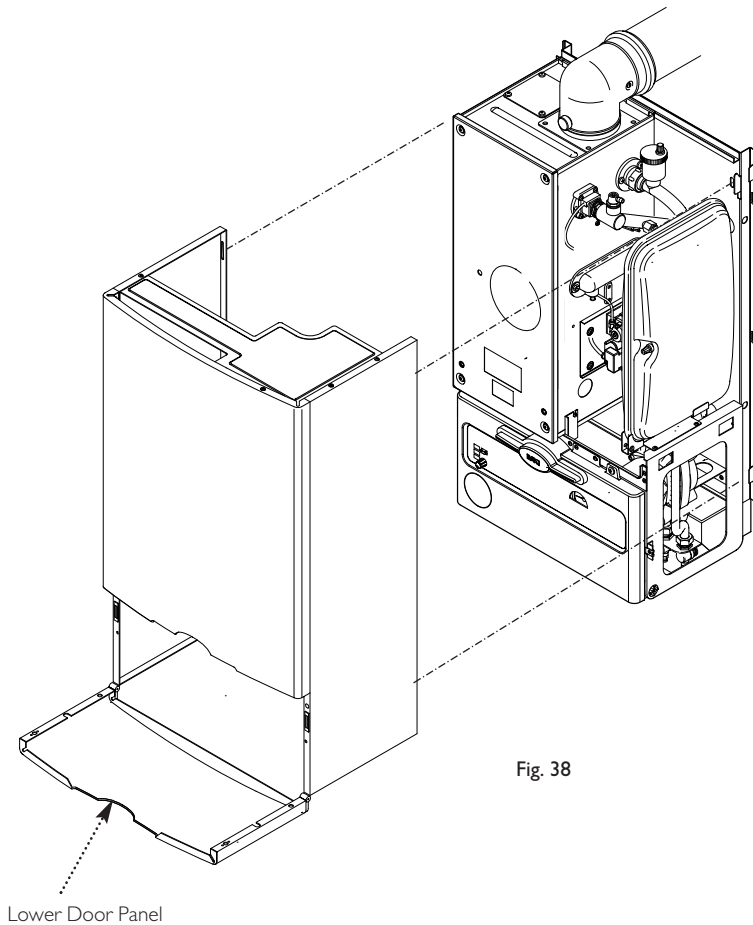

Fig. 38
1. Position the outercase on the chassis, ensuring that the four slots in the side flanges align with the hooks on the chassis (Fig. 38).